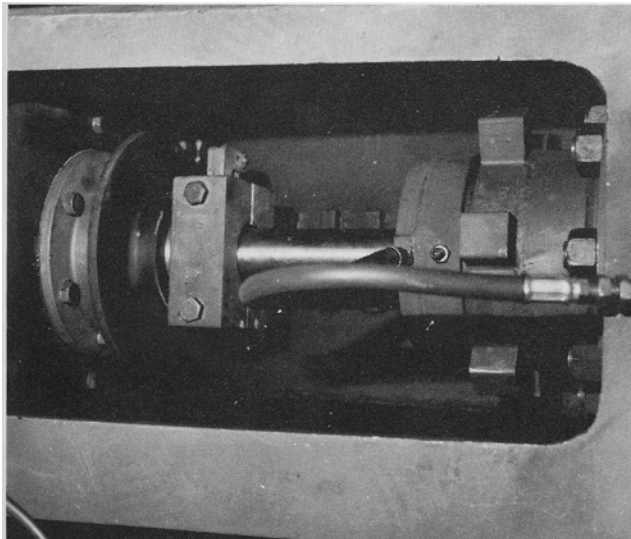

Figure 4-16 Piston rod clamp installed
6. Install the piston rod clamp (Figure 4-16).